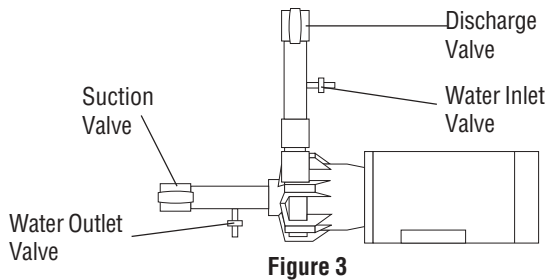

Figure 3
**IMPORTANT:** To protect the pump if prime is lost, use one of the following: (1) pressure switch on the discharge; (2) vacuum switch on the suction; (3) a Power Monitor to monitor motor current.
10. When pumping liquids which may solidify or crystallize, a flush system should be added to the piping. See Figure 3. Install water inlet and outlet valves as shown.